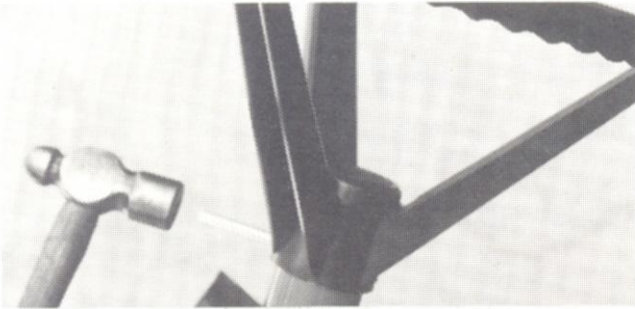

Fig. 2
2. Insert drift punch – partially through the holes to maintain alignment and insert roll pin in the opposite side; See Fig.2.